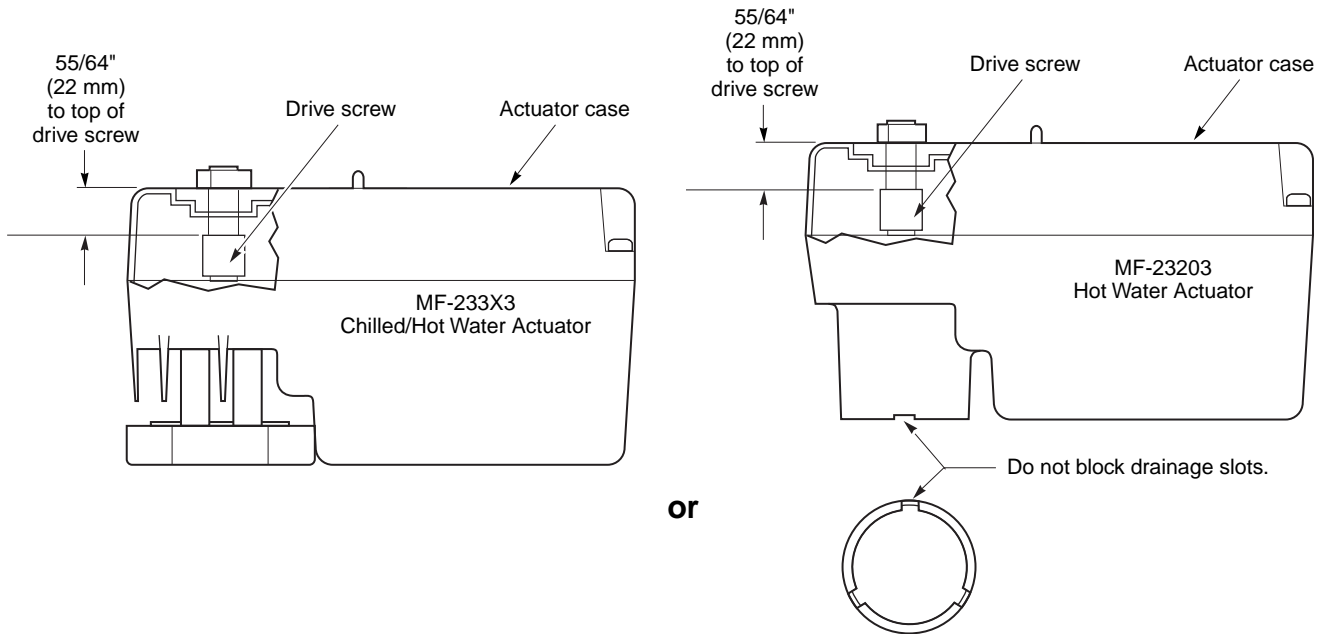

Figure-7 Proper Drive Screw Position Before Mounting.
- Do not block the drainage slots on the threaded portion of the actuator base. Refer to Figure-7.
5. Confirm that the drive screw for the actuator model being mounted is the required distance from the top of the actuator case. See Figure-7. If the drive screw is not in position, insert a tapered pencil or pen into the drive screw and rotate.